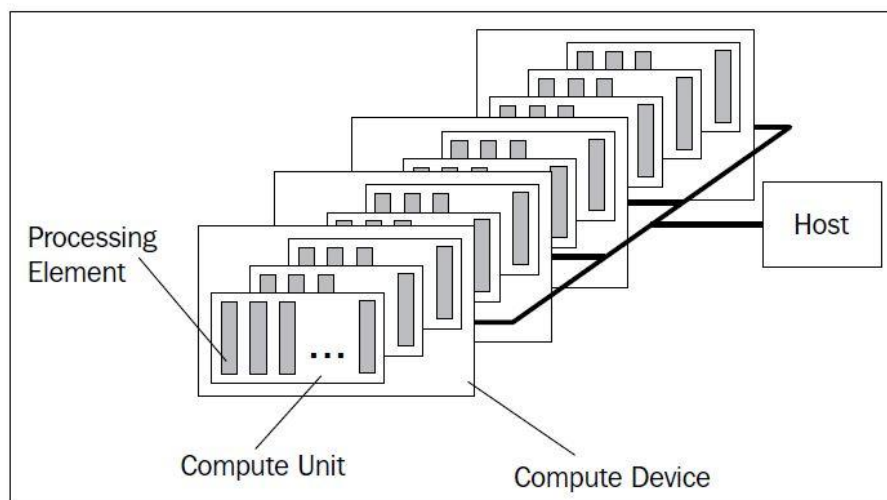

Figure 1: OpenCL Platform Model [1]
From a hardware perspective an OpenCL platform requires a host connected to its devices. Typically CPU is the host and the compute devices can be any other kind of processor or a hardware accelerator, in our case it is GPU. Each device will have compute units and is further divided into processing elements as shown in the Figure 1.
Here you can find three subslices each with eight execution units and each execution units can handle a maximum of seven SIMD (Single Instruction Multiple Data) threads. Mapping it to the compute device in the Figure 1 the execution units represents the compute units and the seven SIMD threads represent the processing elements (PE) [8], [2]. The actual computation happens on the processing elements which means the kernel gets executed on the processing elements